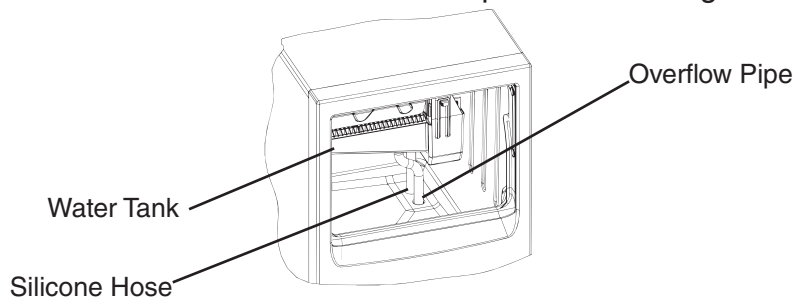

Fig. 6
- 2) Disconnect the silicone hose to drain the water, then after all the water has drained reconnect the silicone hose back in its correct position. See Fig. 6.